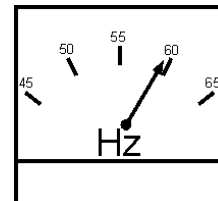

Figure 21. Frequency Meter (Hz)
10. The generator's frequency meter (Figure 21) displays the 60 cycle output frequency in HERTZ.